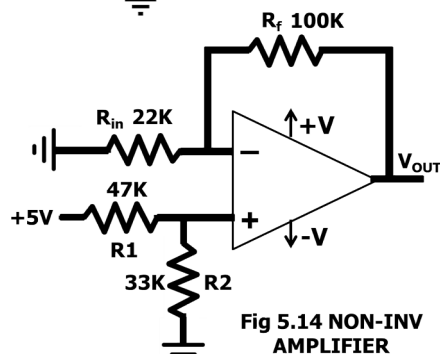

Fig 5.14 NON-INV AMPLIFIER
**Problem 6: In the circuit shown in fig 5.14,  $V_{out} = ?$   $V_{gain} = ?$**